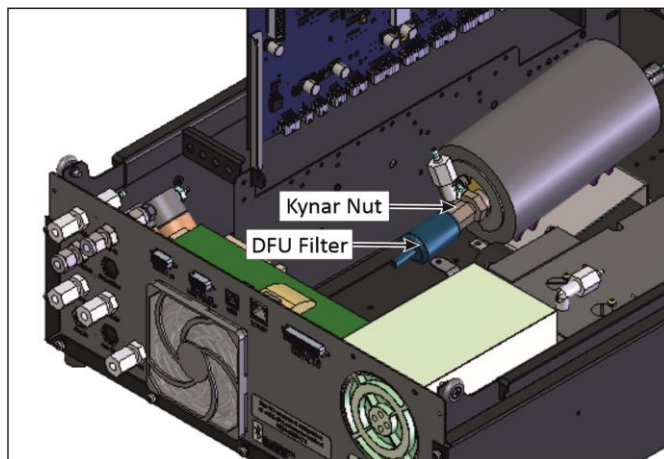

Figure 134 – Remove Kynar Nut
2. Refer to Figure 134. Remove the Kynar nut from the end of the DFU by turning it anti-clockwise.